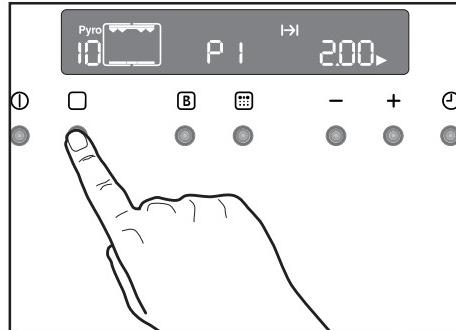
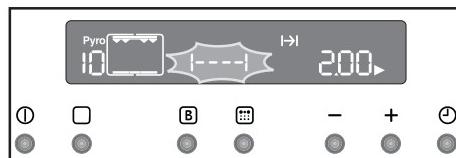

Fig. 19
Fig. 20
1. Press button  to switch on the oven. Press the button  as often as necessary, until the "Pyro" function symbol  (level 1 - P 1) will appear in the display (Fig. 19). Simultaneously, the symbol  and the "Pyro" message will flash in the display and an acoustic signal will be emitted (Fig. 20). This means that, before activating the pyrolytic cleaning function, you have to remove the shelf supports and all the oven accessories.